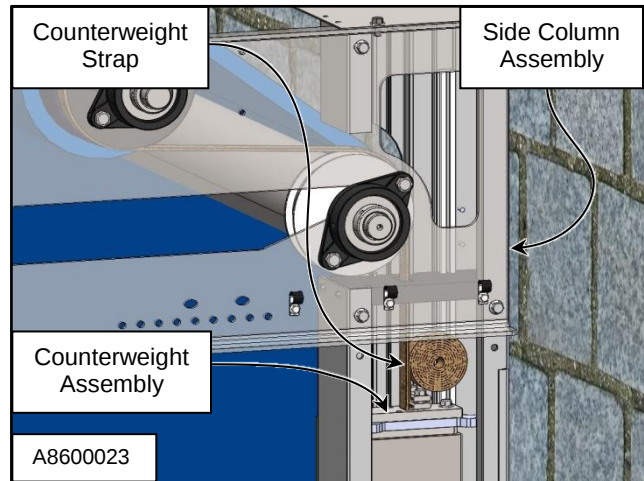

Figure 29
2. Inspect both counterweight straps for tears and frayed edges. Also inspect each strap for abrasions that might indicate a seized pulley or misaligned drum roll. (See Figure 29)